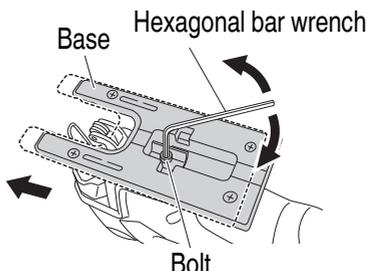

Fig. 17
- (1) Loosen the base bolt by hexagonal bar wrench attached on base and move the base fully forward. (Fig. 17)
- (3) Tighten the M5 bolt again. (Fig. 17)
- (4) Set the orbital position to "0".